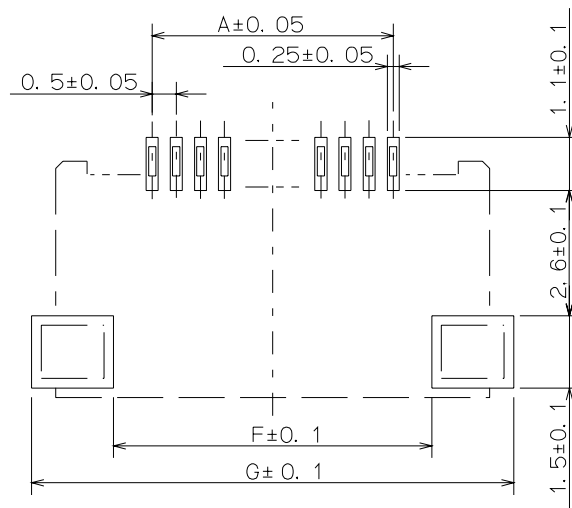

Fig. 4 Pattern of type XF2M
The XF2M connectors are more compact and have a different PCB layout pattern than XF2H models. Two solutions for mounting are shown in Figures 4 and 5 on the next page:
- Pattern for XF2M connectors (Fig. 4) only